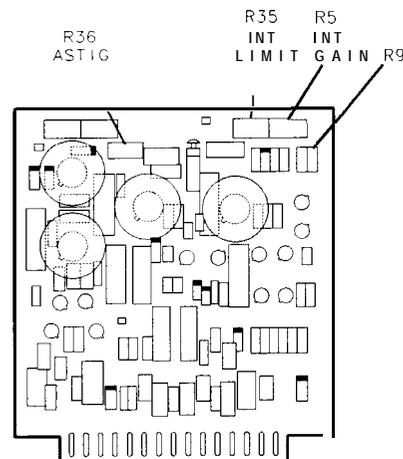

Figure 3-8. Location of A1A2 Components
31. With the front-panel INTENSITY control fully counter clockwise, adjust A1A2R35 INT LIMIT (clockwise) until a spot is just visible in the lower left corner of the CRT. See Figure 3-8 for the location of the adjustment.
The A1A2R35 INT LIMIT adjustment compensates for the variation in beam cut-off voltage of different CRTs and indirectly sets the maximum beam intensity. A1A2R35 INT LIMIT should have enough range to turn the CRT spot on and off. If the spot is always on, decrease the value of A1A2R9. If the spot is always off, increase the value of A1A2R9. Refer to Table 3-3 for the acceptable range of values, and to Table 3-4 for HP part numbers. Refer to Figure 3-8 for the location of A1A2R9.